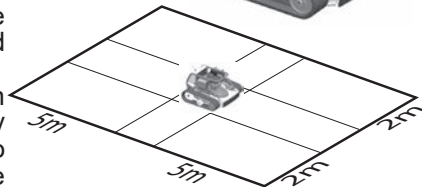

Fig 19 - Danger Zone
- b) Do not allow any people or animal to approach the machine. A miscontrol of the drive can cause severe injury to the people or some object can be thrown out from the mower blade and hit somebody. The **danger area** is shown in Fig 19.